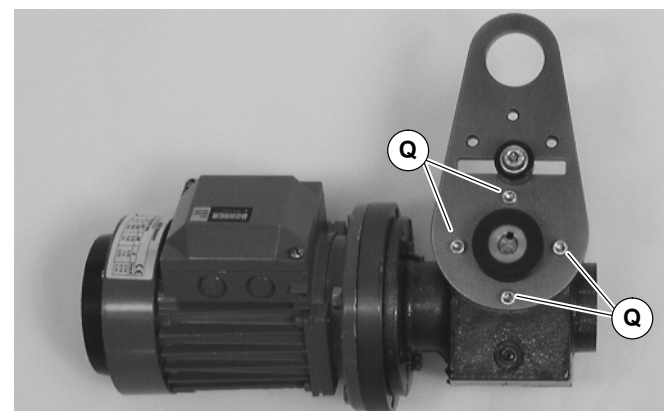

Figure 5
## 2. If required, change gearmotor position by removing four (4) screws (Q of Figure 5). Rotate gearmotor to other position and replace screws (Q). Tighten to 103 in-lb (12 Nm).